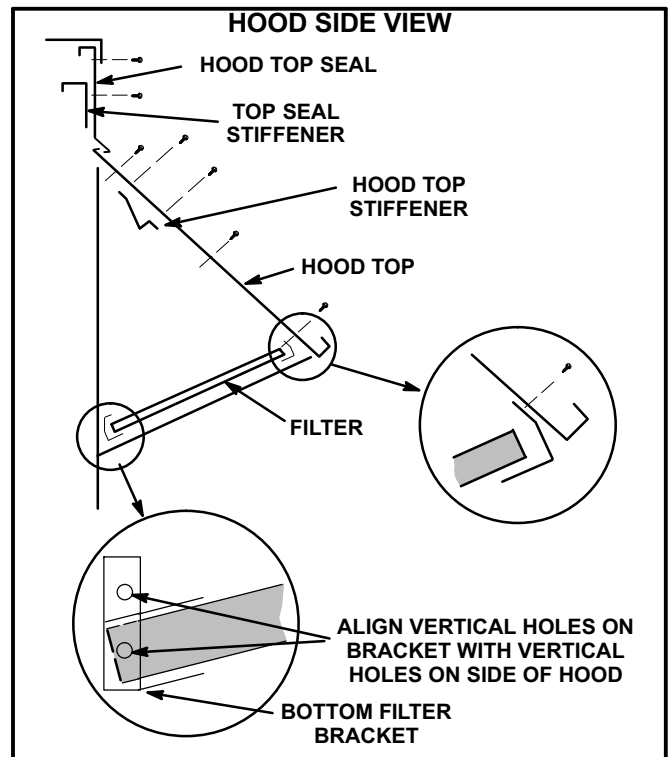

FIGURE 10
- 5- Secure hood top stiffener to unpainted side of the hood top with ten screws. See figures 10 and 11.
- 12- Align the two holes on the left hood side with the two holes in the bottom filter bracket. See figures 10 and 12. Secure with screws.
- 13- Secure bottom filter bracket to right hood side in the same manner. See figures 10 and 13.
- 15- Secure the top filter bracket (long) to the hood top. See figures 10 and 11. Slide two filters into place.
- 16- Insert the third filter into the bottom filter bracket. Position the top filter bracket (short) as shown in figures 10 and 11. Secure the bracket to the hood top with screws.